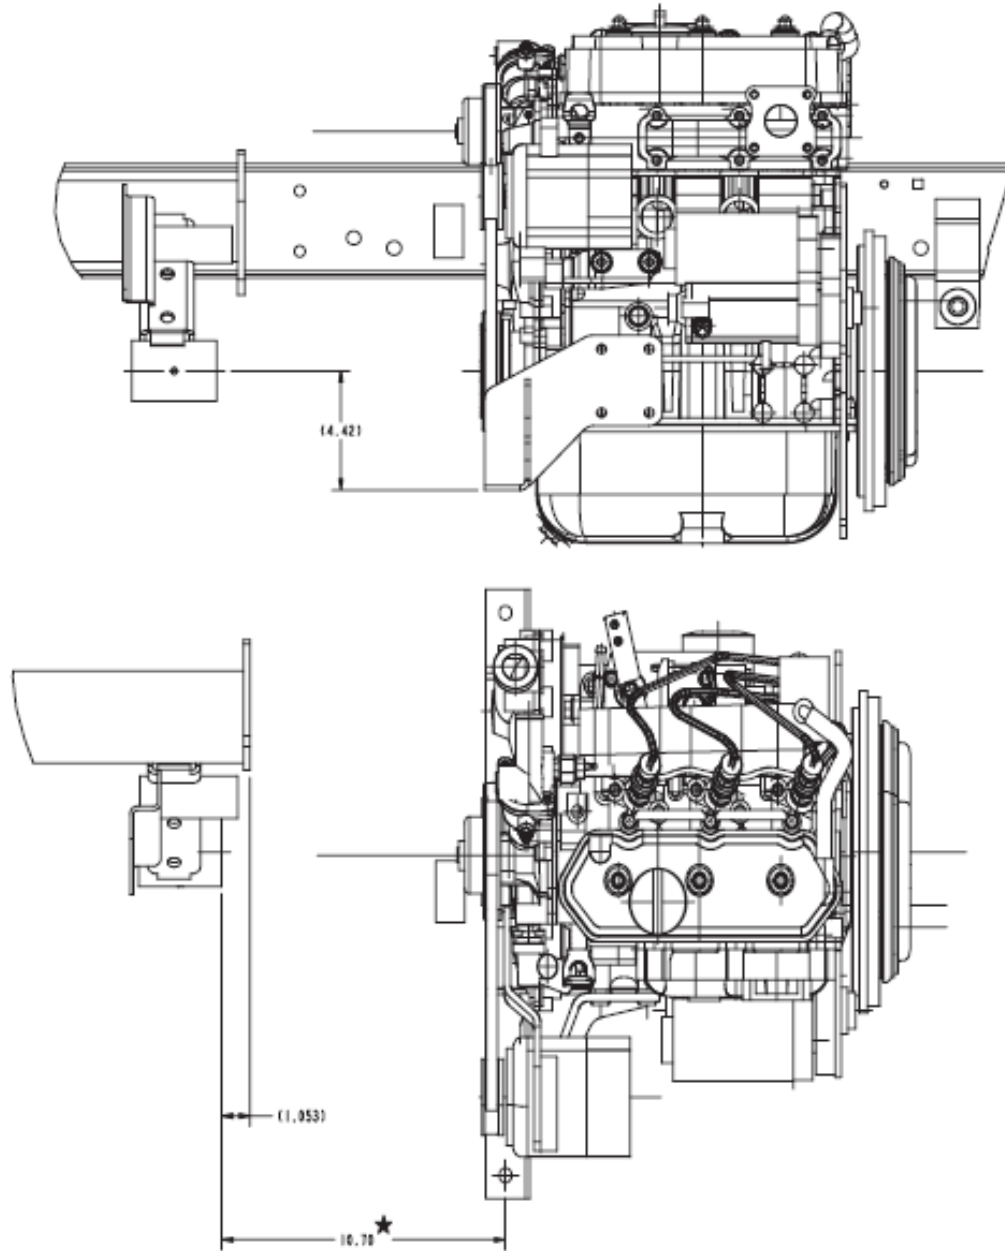

Figure 4
1. Using the dimensions, shown in figures 4 and 5, locate the mounting position of the new jack shaft support assembly on the support tube.